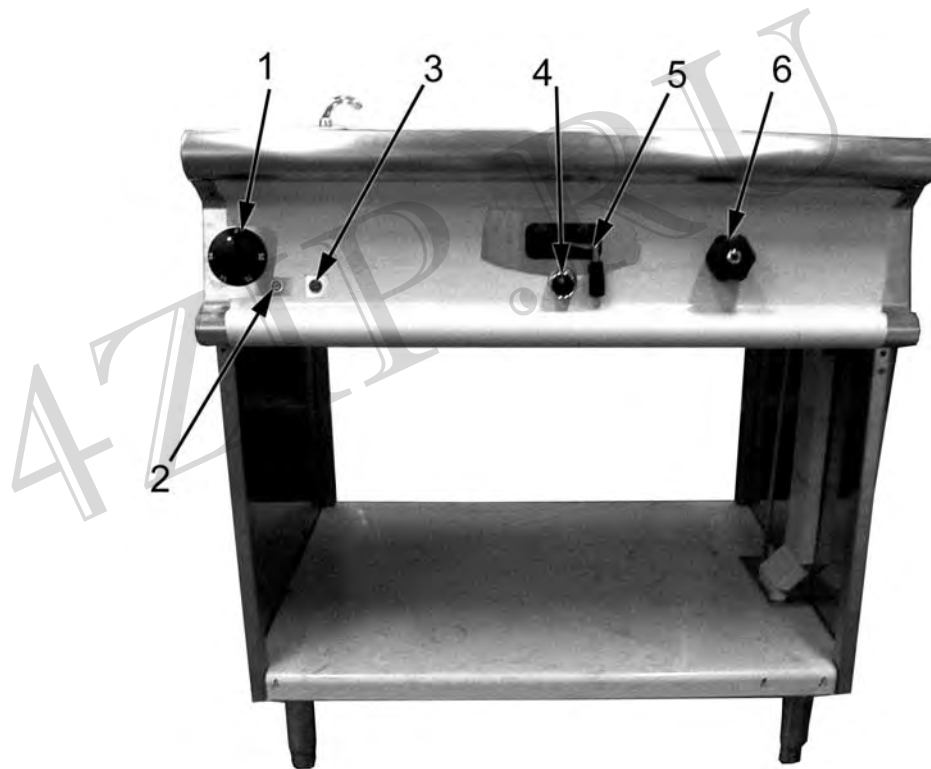

Fig. 1
By turning the thermostat knob clockwise, the power indicator light (item 3 in Fig. 1) will light up. The power indicator light (item 3) will remain on until the knob is turned back to 0.
- By turning the thermostat knob clockwise, the power indicator light (item 3 in Fig. 1) will light up to indicate that the appliance is energized;
- By turning the thermostat knob further on, water will start heating. Such heating is provided by sheathed heating elements installed outside the tank and capable of withstanding mechanical and thermal stress. Whenever heating is on, an operation indicator light (item 2 in Fig. 1) also lights up.